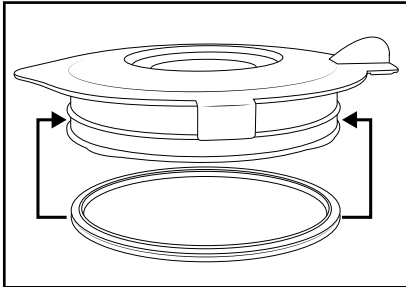

Fig. 3
- Clean the measuring cap **1** and the lid **2** in a mild soap solution. You can remove the rubber seal **9** to clean the blender lid by hand. Make sure that the rubber seal **9** is correctly reattached before you use the lid **2** again (Fig. 3).